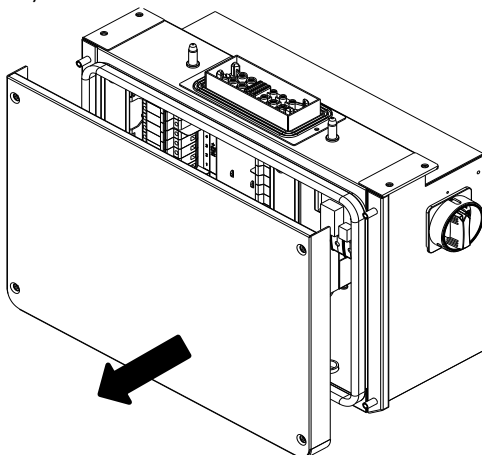

Figure 2.17 – Removing the Wiring Box Cover
(1) Use a #3 Phillips screwdriver to remove the 4 screws on the wiring box and pull cover straight off the box. Do not twist or slide the cover while removing. (see Figure 2.17)